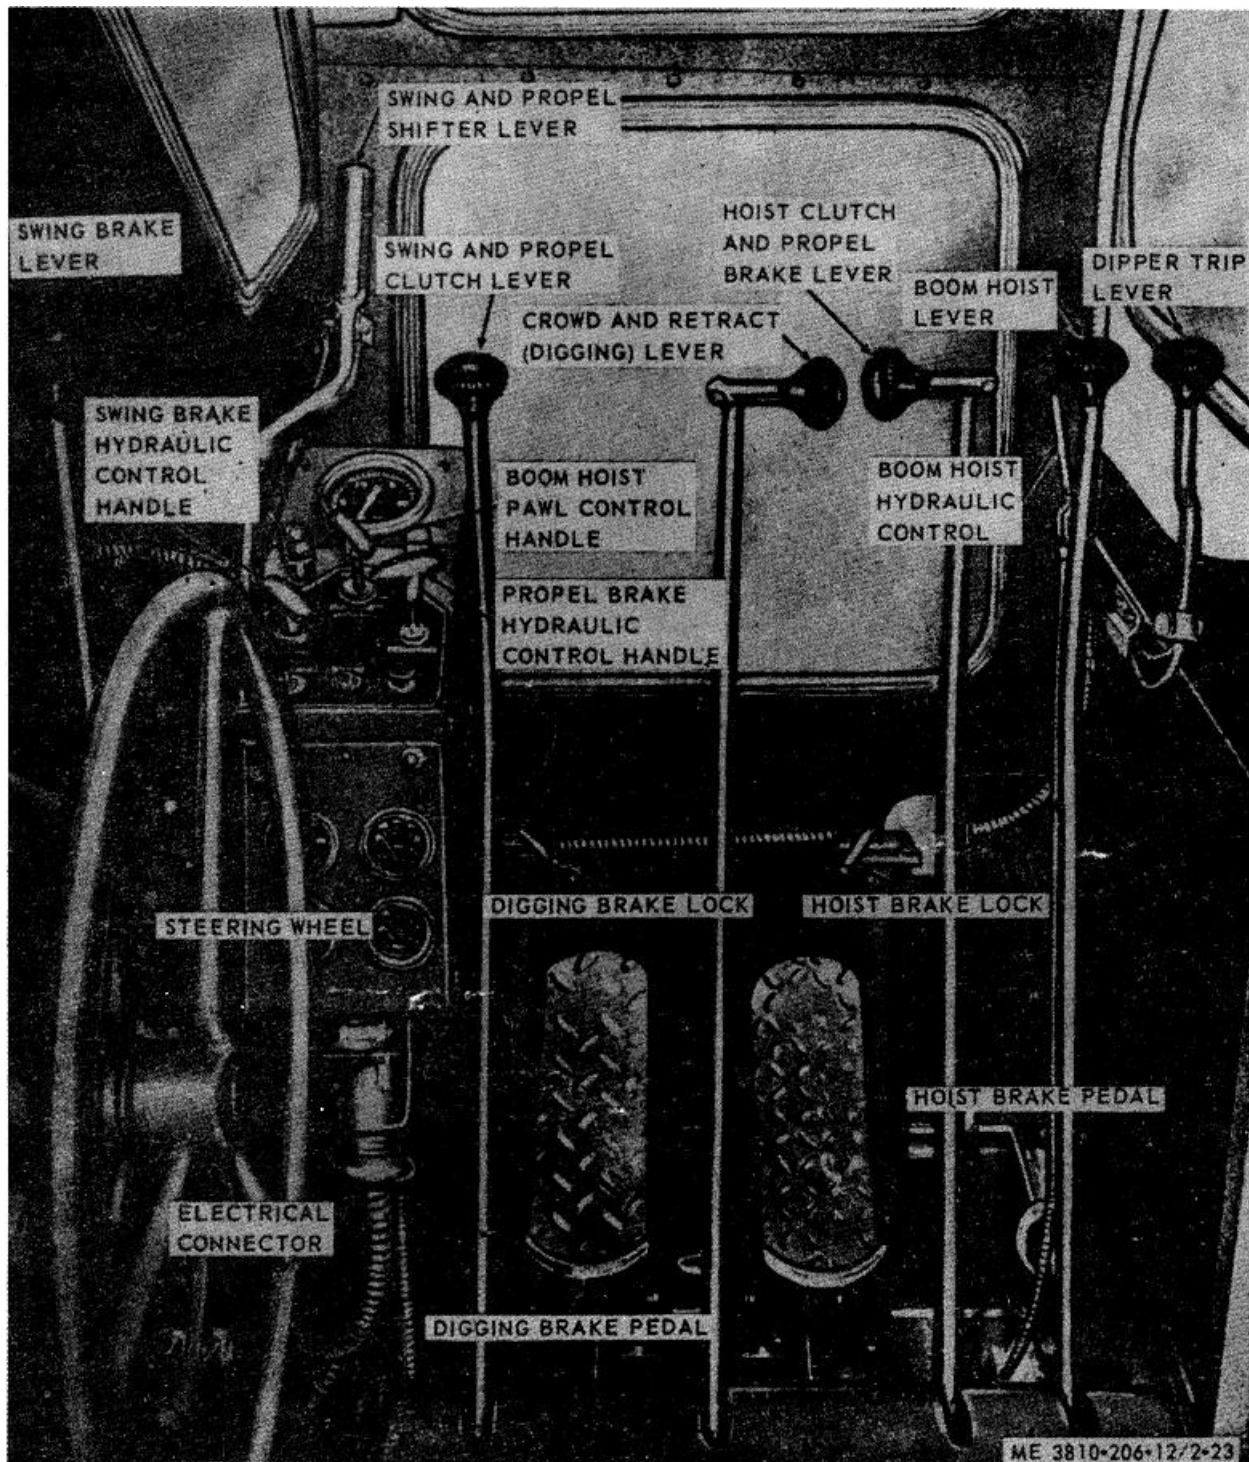
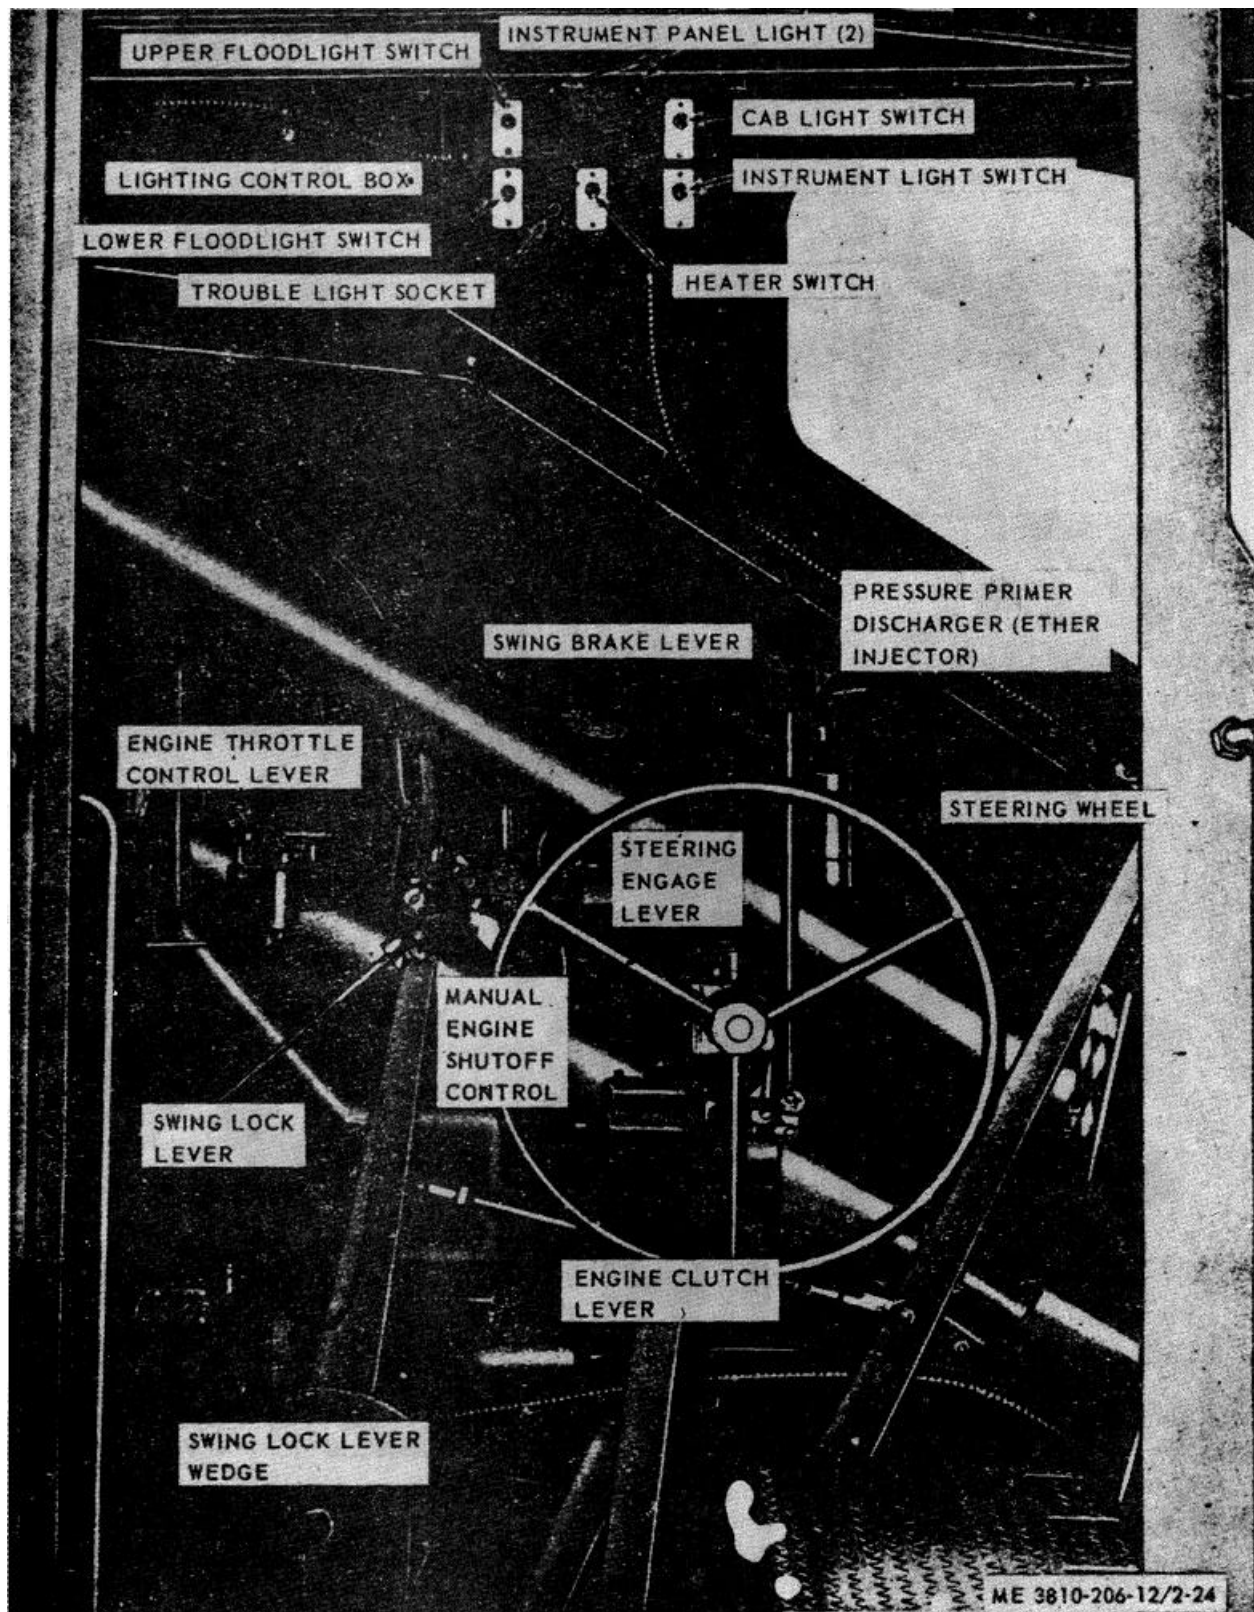

Figure 2-23. Crane operating control handles and levers.
Figure 2-24. Crane, engine, and lighting controls.
d. *Boom Hoist Pawl Control Handle.* The boom hoist pawl control handle (fig. 2-23) enables operator to engage or disengage pawl from boom hoist drum ratchet. Push down to engage. To release pawl from engagement with the ratchet, raise boom slightly by pulling boom hoist lever toward operator, to take pressure off the pawl, then pull up on handle.
This handle (fig. 2-23) locks swing brake. To apply swing brake, push swing brake lever (fig. 2-24) forward, then push down on hydraulic control handle and turn it $1/4$ turn clockwise to lock. To release swing brake, turn hydraulic control handle $1/4$ turn counterclockwise then pull up.
f. *Propel Brake Hydraulic Control Handle.* This handle (fig. 2-23) locks propel brake. To apply, push hoist clutch and propel brake lever away from operator, then push down on hydraulic control handle and turn $1/4$ turn clockwise to lock. To release propel brakes, turn the handle counterclockwise one quarter turn and pull up.
p. *Pressure Primer Discharge (Ether Injector).* Located on left side panel behind steering wheel (fig. 2-24), the ether injector forces ether vapor into air intake manifold while trigger is held down, as an aid to starting in cold weather (para 2-25). Release pressure on trigger to stop ether vapor entry (after engine is running).
r. *Swing Lock Lever Wedge.* This wedge (fig. 2-24) must be installed when swing lock is disengaged (para ab below), to prevent swing lock from engaging while crane-shovel is in operation.
s. *Instrument Panel Light Switch.* This switch (fig. 2-24), mounted on lighting control box, is
t. *Cab Light Switch.* Located on lighting control box (fig. 2-24), this two position toggle switch turns interior cab lights ON and OFF.
u. *Upper Floodlight Switch.* Located on lighting control box (fig. 2-24) this two position toggle switch turns the duel floodlights ON and OFF. Floodlights are mounted on top front of cab, and act as headlights when crane is traveling.
v. *Lower Floodlight Switch.* Located on lighting control box (fig. 2-24) this two position toggle switch turns single floodlights, mounted on either side of boom foot, ON and OFF.
x. *Dipper Trip Lever.* This push-pull type lever (fig. 2-23) mounted on right side of operator's compartment, controls opening of dipper door when operating with shovel front end attachment. Pull this lever toward operator to open dipper door. Release lever the instant dipper door opens.
(fig. 2-24) is used to set engine speed. Move forward to increase speed, back to idle.
below throttle control lever (fig. 2-24) this control shuts off fuel flow to injector pump. Pull to stop engine (para 2-11), then after engine stops, push in.
aa. *Steering Gear Engaging Lever.* Located behind steering wheel (fig. 2-24), this lever should always be up as illustrated, except when steering wheel is to be used. Moving lever downward engages steering wheel with steering gear.
ac. *Swing Brake Lever.* Located between steering wheel and pressure primer discharger (fig. 2-24), push this lever forward to apply hydraulic pressure to swing brake. To lock the swing brake, push lever forward and set brake, then push swing brake hydraulic control handle in and turn one quarter turns clockwise. Release by turning counterclockwise 1/4 turn and pulling up.
ad. *Swing and Propel Shifter Lever.* This lever, located at left of steering wheel (fig. 2-24) and along side instrument control stand, shifts motive power to propel or swing. Move shifter lever fully forward to travel machine, fully to the rear for swing motion.
ae. *Hoist Brake Lock.* Turning this lever to the left (fig. 2-23) (after applying hoist brake) will lock hoist brake in applied position. Move right to release.
af. *Digging Brake Lock.* Moving this lever to right (fig. 2-23) after applying digging brake, will lock digging brake in the applied position.
ag. *Digging Brake Pedal.* This pedal (fig. 2-23) located on floor in front of lever stand, near instrument control stand, applies brake to left hand or digging drum.
ah *Hoist Brake Pedal.* Located ,on floor in front of lever stand to right of digging brake pedal (fig. 2-23), this pedal applies brake to right hand or hoist drum.
ai. *Swing and Propel Clutch Lever.* This lever (fig. 2-23) when used in conjunction with swing and propel shifter lever (ad above) will swing or
aj. Crowd (Digging) and Retract Clutch Lever. This lever (fig. 2-23) is a push-pull type lever which rotates left hand (digging) crowd drum. Pull toward operator to wrap cable on the drum. Push away from operator to run cable off drum (when planetary pinions are installed). With shovel front end attachment and sprocket installed, pull lever toward operator to crowd shovel into bank, push lever away from operator to retract dipper from bank after it is loaded.
ak. Hoist Clutch and Propel Brake Lever. This lever (fig. 2-23) when pulled toward operator engages clutch on hoist drum and wraps cable on drum. When this lever is pushed away from operator, it applies the propel brake. To lock propel brake in applied position, push down on
al. Boom Hoist Clutch Lever. This lever (fig. 2-23) located at extreme right of lever stand, when pulled toward operator, will wrap cable on boom hoist drum and raise boom (or auxiliary gantry, when used with backhoe). Push this lever away from operator to release boom hoist brake and allow boom to lower by gravity. Re
am. Boom Hoist Hydraulic Control Handle. This handle (fig. 2-23) must be squeezed toward boom hoist clutch lever to close the pressure retaining valve connected to boom hoist hydraulic line and lock hoist. Clutch lever can then be pumped (moved to and from operator more than once), to engage boom hoist clutch more firmly on the drum.
ao. Engine Clutch Lever. This lever (fig. 2-23), located at lower left rear of operator's seat between swing lock lever and cab left side panel, is a pull-up,
(1) Perform required preventive maintenance checks and services (para 36).
(2) Insure that all brakes are set (para 2-8) and that engine clutch lever (fig. 2-24 and para 2-28) is disengaged.
- (1) Lower load until it rests on ground.
- (2) Apply swing and propel brakes and lock with hydraulic control levers (para 2-8).
- (3) Disengage engine clutch lever (fig. 2-24)